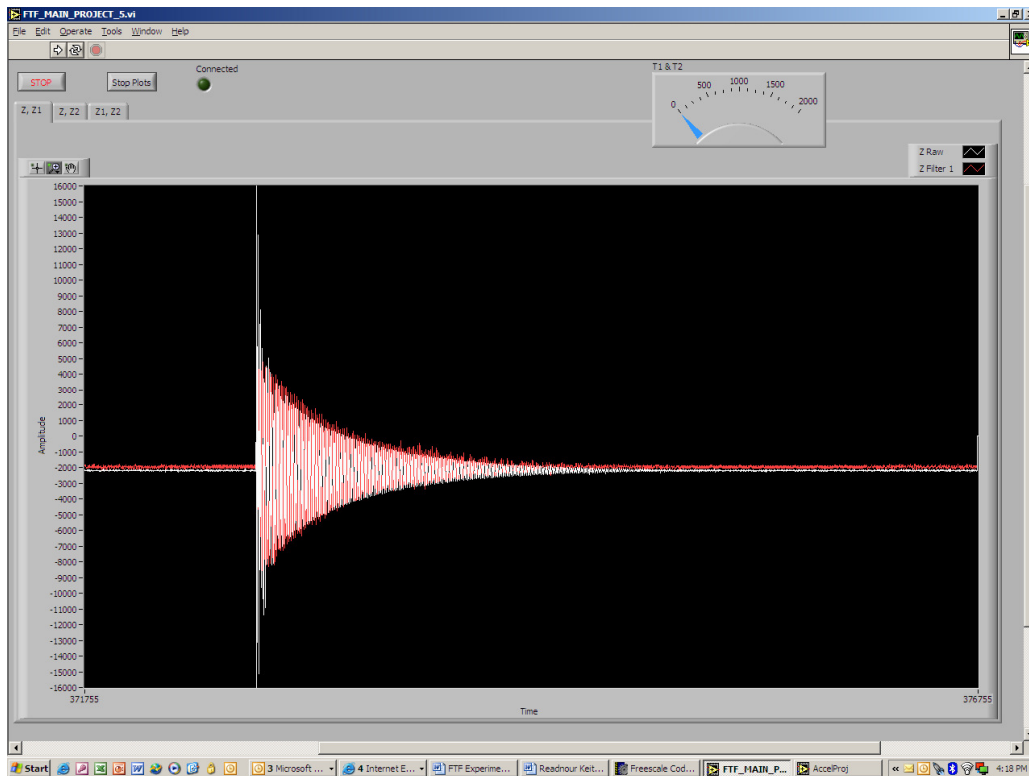

Figure 3a: Aliased measured signal and low pass filtered signal
- j. The effect of time delay on the filtered signals is evident in Figures 3a and 3b.